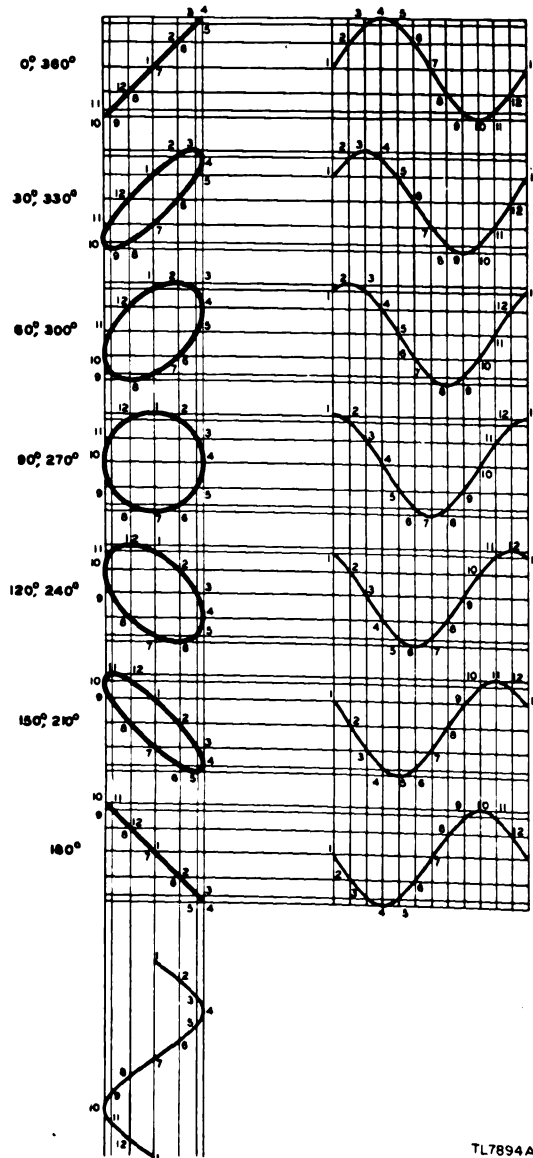

Figure 5. Lissajous figures for various phase differences.
b. The pattern obtained is a special type of Lissajous figure. The way in which phase difference is indicated is shown in figure 5. The phase angle cannot be read directly except at 0°, 90°, and 180°. This method of measurement is chiefly useful in adjusting a phase-shifting circuit so that the output is exactly in phase, or 90° or 180° out of phase, with a reference waveform.